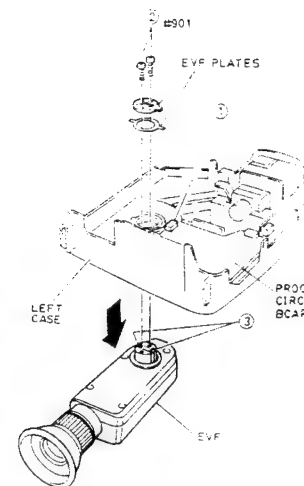

Fig. 2-24
- 1) Disconnect one (1) connector (CN1209) on the process circuit board. (See Fig. 2-24)
- 2) Remove two (2) screws holding the EVF and EVF plates.
- 3) Release two (2) tabs and remove the EVF from the left case in the direction of the arrow.